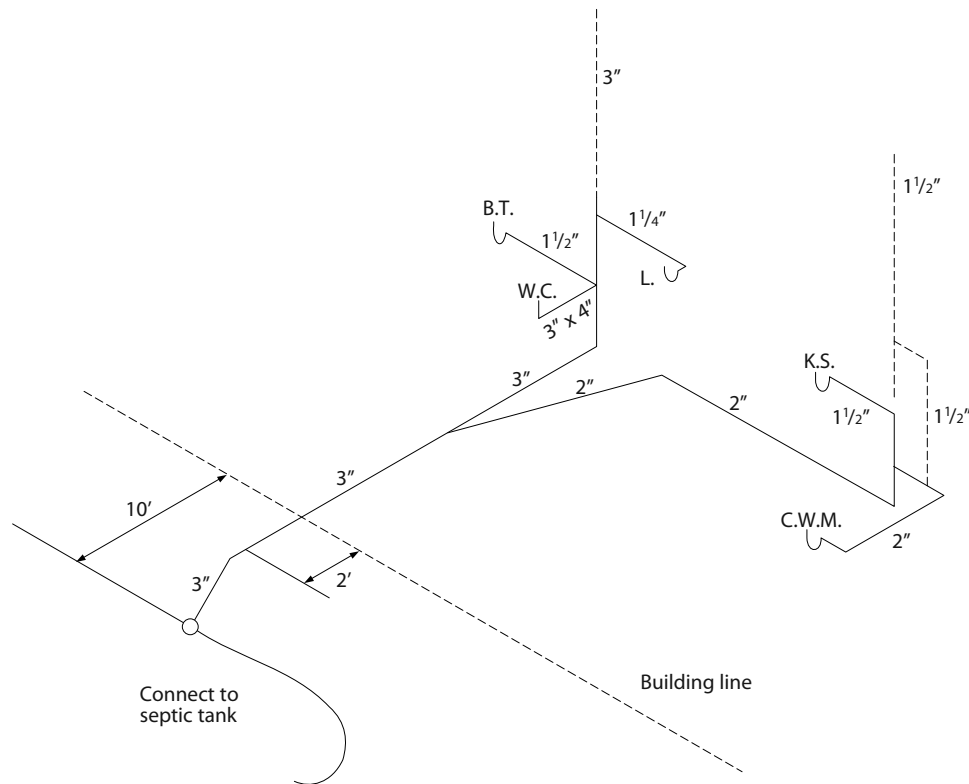

Figure 2-19
- The building sewer shown in Figure 2-19 is connected to a septic tank. Though this is a building sewer, it's not classified as such by some codes because its developed length doesn't exceed 10 feet. Therefore, the part of the sewer pipe exceeding the 2-foot limit (more, in some codes) beyond a building exterior wall may be considered part of the building drain and sized at 3 inches.